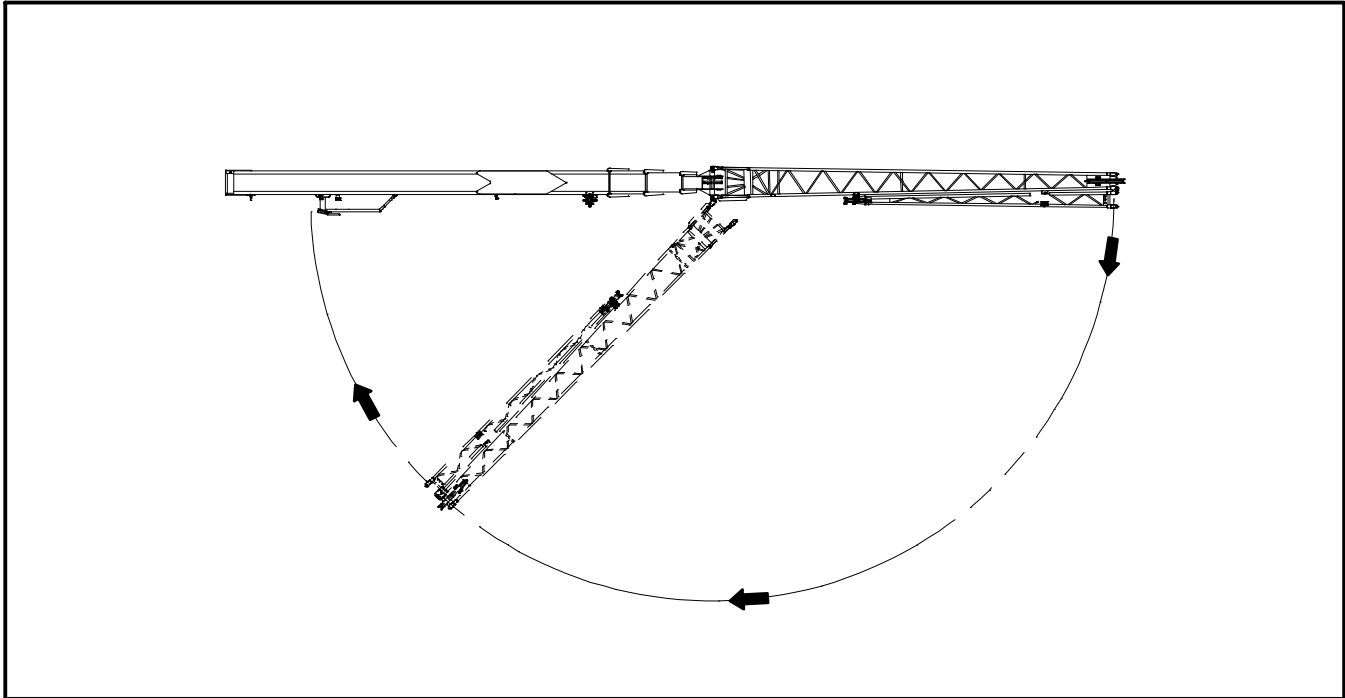

Figure 4–57
16. Remove the inside bottom right fly base connecting pin on the right side of the fly. To reduce loading and ease pin removal, push the fly to the right. Refer to Figure 4–56. Remove the inside top right fly base connecting pin on the right side of the fly. To reduce loading and ease pin removal push the fly to the left. Store the two pins and keepers in the storage rings on the rear right side of the fly base section.
18. Attach a hand line to the tip of the fly base section. Slowly swing the fly base section around to the right side of the boom while slowly booming up to 50°. Refer to Figure 4–57.